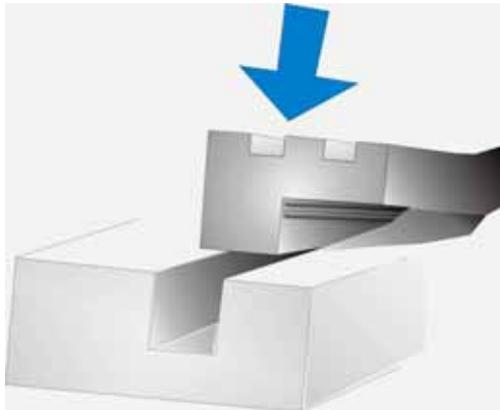

Figure 4-1: Gasket Replacement
Step 2: Attach the new gasket to the monitor. Make sure the gasket fits precisely into the groove along the edges of the monitor's front panel (**Figure 4-1**).